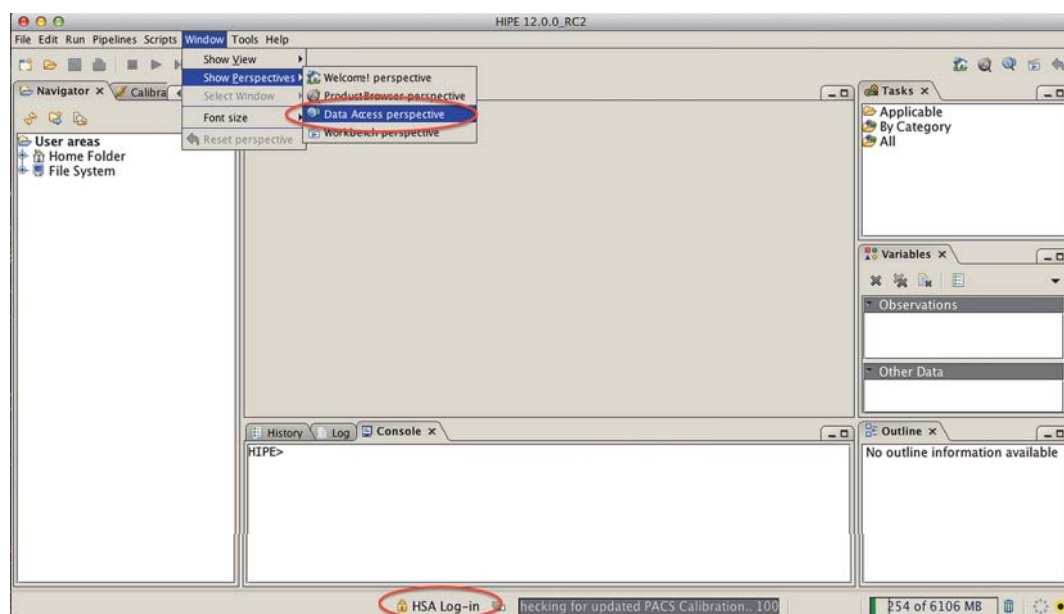

Figure 1.1. HSA Log-in and Herschel Science Archive User Interface from menu
- You will need to log into the HSA using the "HSA Log-in" button in the bottom status bar of HIPE (see Figure 1.1) (for more details, see Logging into the HSA)
- You can query the HSA from within HIPE using the *Data Access perspective*, from the Window → Show Perspectives menu (see Figure 1.1).